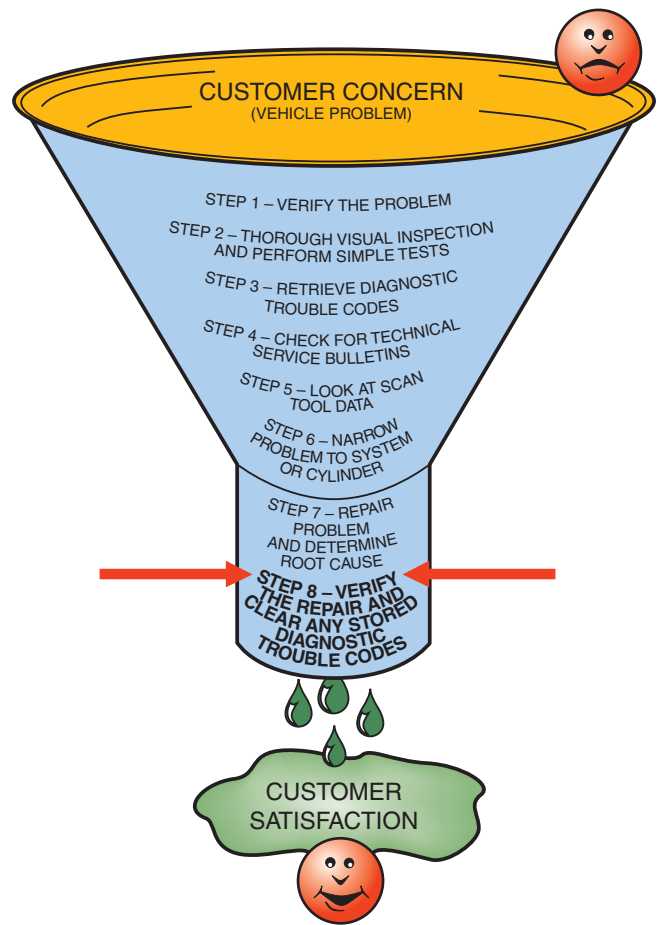

FIGURE 40-10 Step 8 is very important. Be sure that the customer’s concern has been corrected.
STEP 8 VERIFY THE REPAIR AND CLEAR ANY STORED DTCs ● SEE FIGURE 40-10.